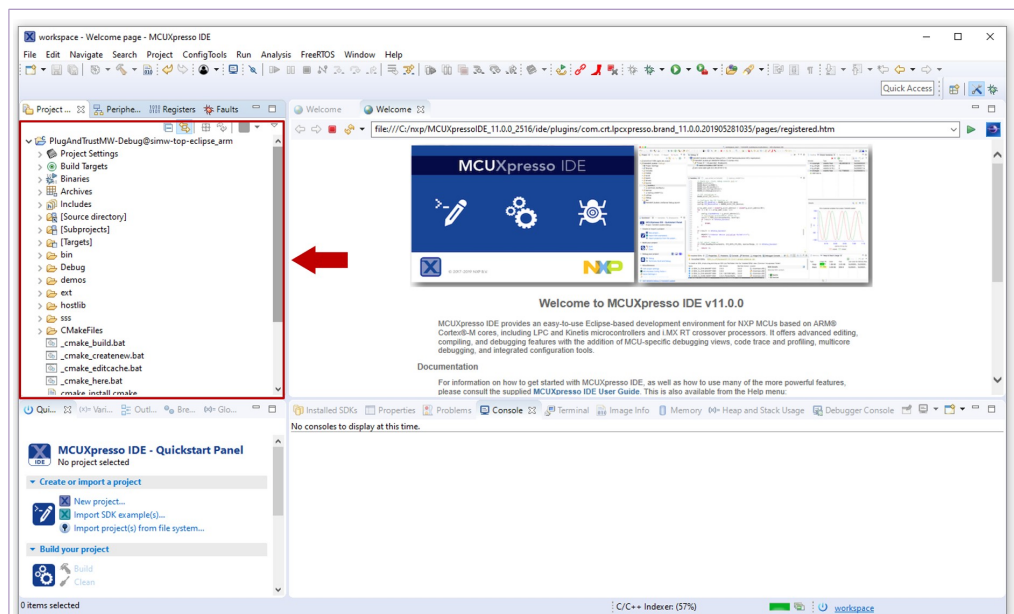

Figure 29. EdgeLock SE050 Plug &amp; Trust middleware imported in workspace
5. The *PlugAndTrustMW* project should now be imported in your workspace as shown in Figure 29: